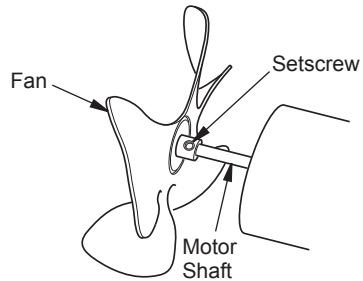

Figure 9 - Fan, Motor Shaft and Setscrew Identification
11. Use 1/8" hex wrench to loosen setscrew which holds fan to motor shaft (see Figure 9).